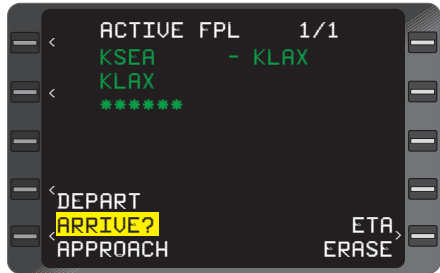

Figure 3-43
1. Line Select Key - DEPRESS to position cursor over **ARRIVE?** field on the Flight Plan page (Figure 3-43).